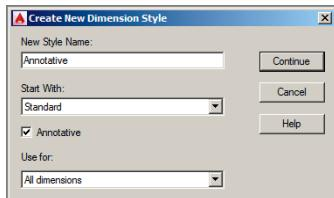

FIGURE 13.6 Creating an annotative dimension style
1. Type **D** (for Dimension Style), and press Enter. Click the New button in the Dimension Style Manager to bring up the Create New Dimension Style dialog box. Type **Annotative** in New Style Name, and click the Annotative check box (see Figure 13.6). Then do the following: